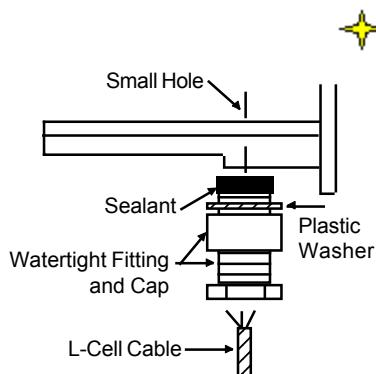

Figure 4-15. Inserting L-Cell Cable through Watertight Fitting and Cap
2. See Figure 4-15. Place a plastic washer on a watertight fitting. Thread the L-Cell cable through a cap and watertight fitting. Leave an adequate length of cable between the L-Cell and fitting to provide a drip loop. (see Figure 4-16).